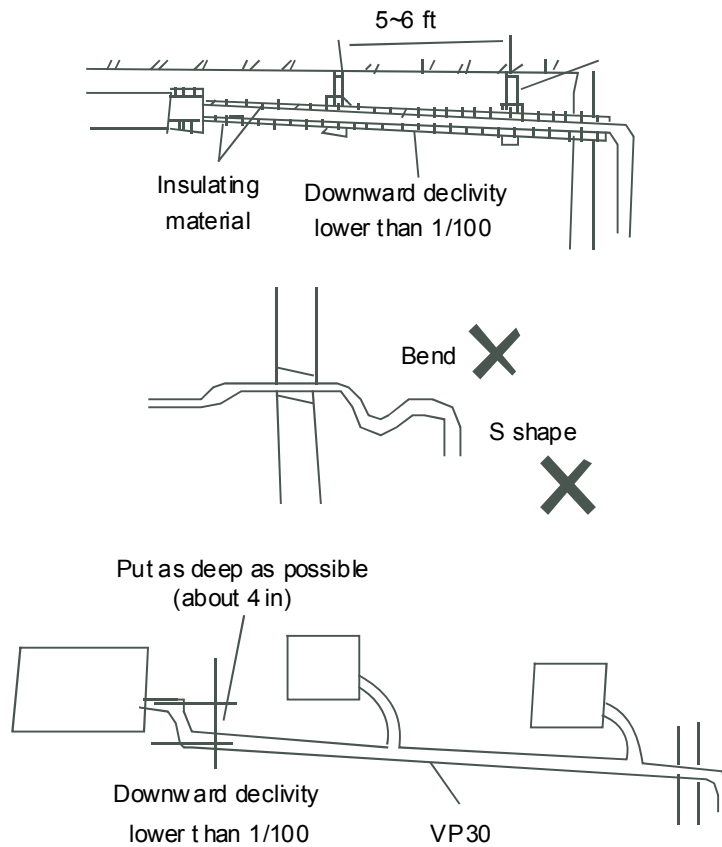

Fig.8
- Refer to the Fig.8 for the installation of the pipes.